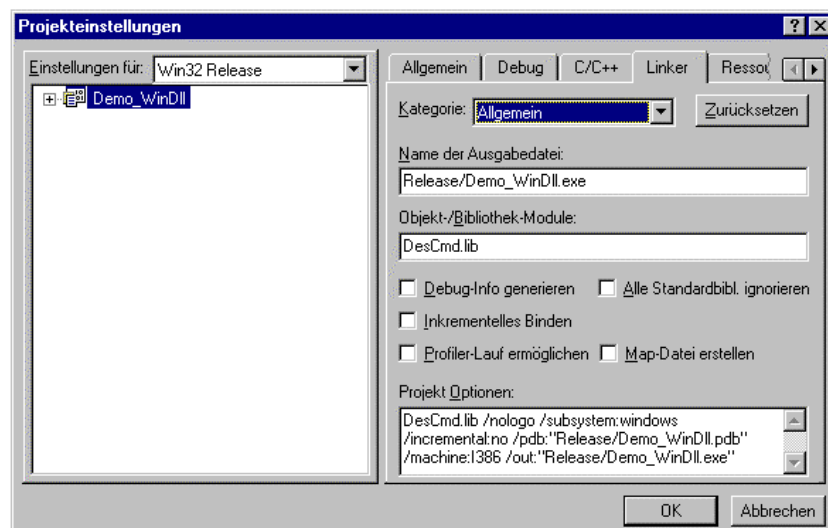

Figure 2: Project Settings Visual C++
- Third Step:** The file 'DesCmd.lib' has to be added to the project. For that purpose you have to open the menu point 'Settings' of the menu 'Project'. Select the tab 'Linker' and add the file 'DesCmd.lib' in the edit field Object-/Library modules. The figure 2 shows the german version of this dialog.